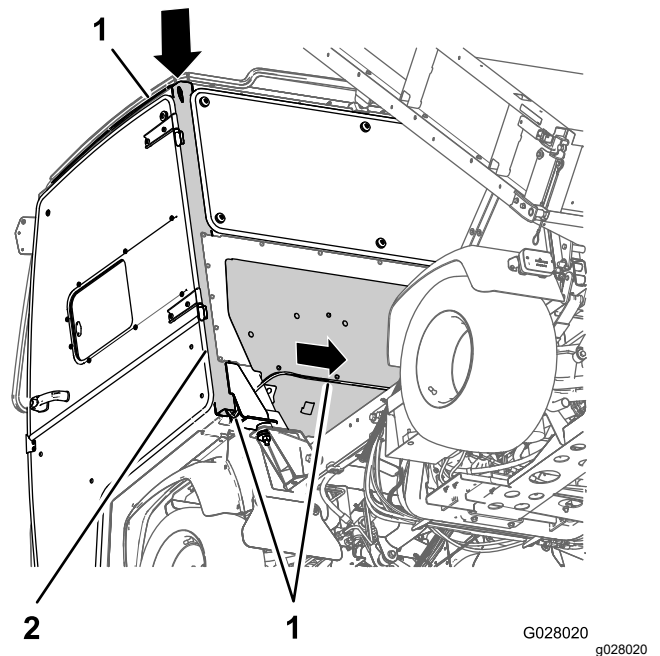

Figure 27
- Route the 2-socket connector of the wire harness into the opening at the top of the driver's side pillar B of the cab frame and down through the frame (Figure 27).